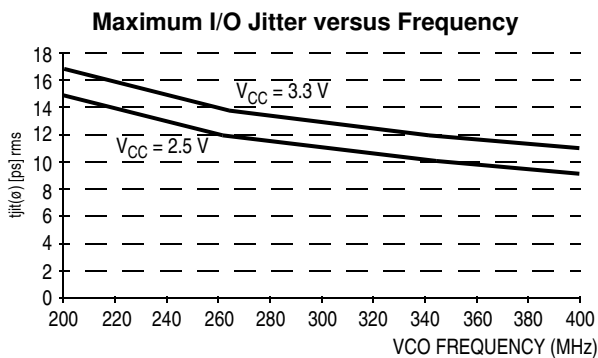

Figure 7. I/O Jitter versus VCO Frequency for $V_{CC} = 2.5$ V and $V_{CC} = 3.3$ V
2. Multiple frequency generation. Jitter data are specified for each output divider separately. See Figure 7 for an example.
Above equation uses the maximum I/O jitter number shown in the AC characteristic table for $V_{CC} = 3.3$ V (17 ps RMS). I/O jitter is frequency dependant with a maximum at the lowest VCO frequency (200 MHz for the MPC9600). Applications using a higher VCO frequency exhibit less I/O jitter than the AC characteristic limit. The I/O jitter characteristics in Figure 7 can be used to derive a smaller